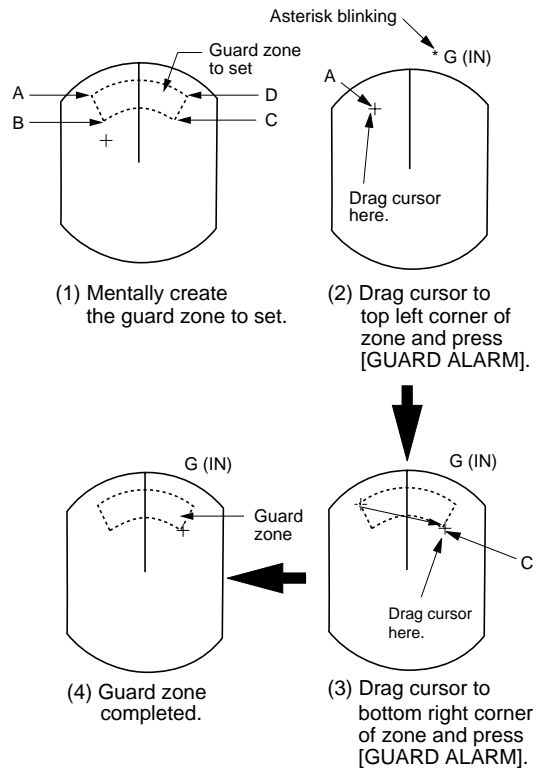

Figure 3-9 How to set the guard zone
1. Mentally create the guard zone you want to set. For example, the guard zone shown in Figure 3-9 (1).
2. Operate the trackball to set the cursor on point A or B. Press the [GUARD ALARM] key. "*G (IN)" or "*G (OUT)", with asterisk blinking, appears at the top right-hand corner of the display. See Figure 3-9 (2). (The asterisk indicates the guard zone is partially set.)
3. Operate the trackball to set the cursor on point C or D. See Figure 3-9 (3).
4. Press the [GUARD ALARM] key. The asterisk disappears. See Figure 3-9 (4).